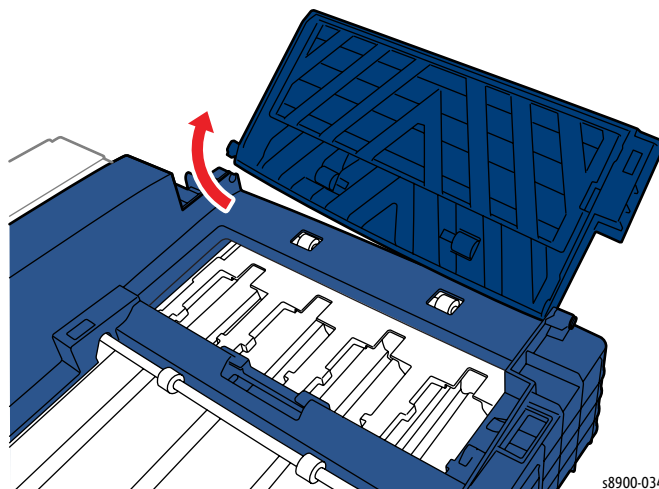

Figure 2 - Printer without Scanner
4. Figure 2 - Printer without Scanner shows the printer without the Scanner attached for visibility of the Ink Access Door.